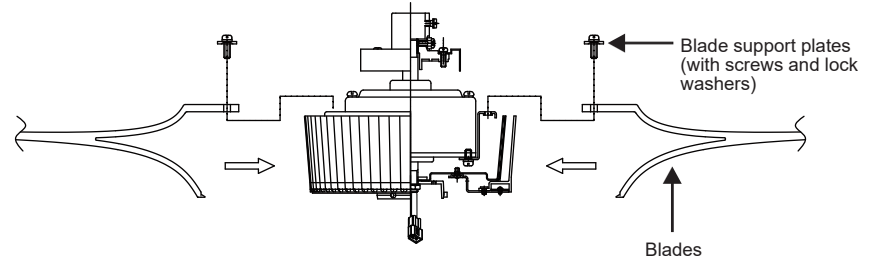

Fig. 5
Step 1. Attach the blade and blade support plate to the fan motor assembly as shown in Figure 5.
Step 2. Tighten the three blade screws with lock washers already installed in the blade support plate. (Fig. 5)